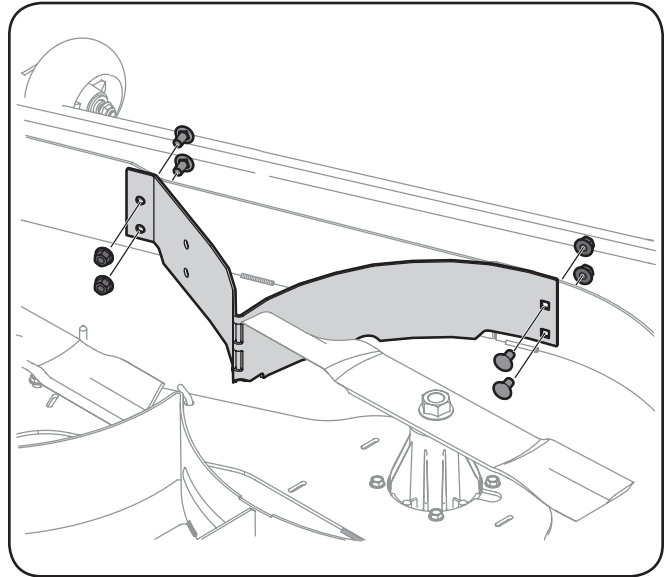

Figure 1-3
1. Install the center baffle using four 3/4-inch carriage bolts (and four flange nuts) to secure it. See Figure 1-3.